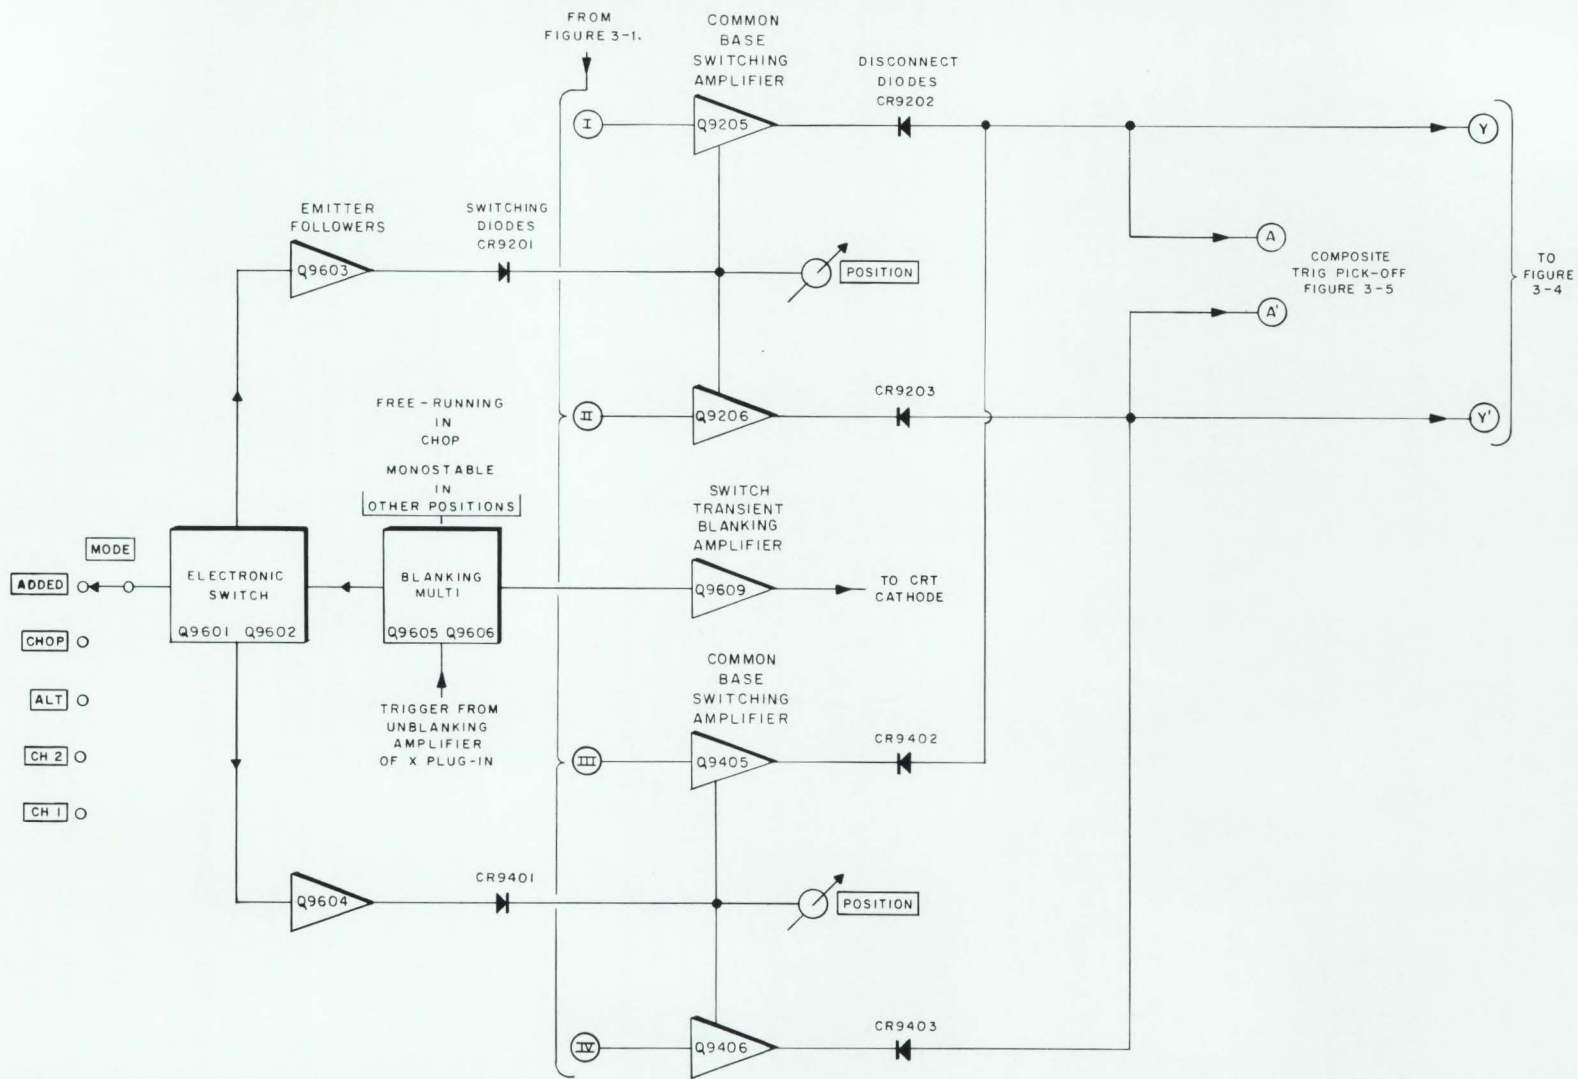

Figure 3-3. Type 76-08, Electronic Switching Circuit Functional Block Diagram
- Figure 3-3. Type 76-08 Electronic Switching Circuits, Functional Block Diagram
3-3. ELECTRONIC SWITCH CIRCUIT DESCRIPTION (Figure 3-3)